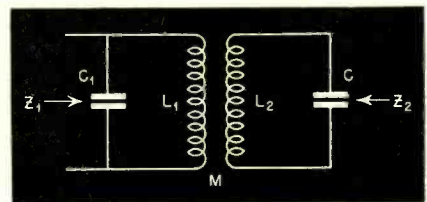

FIG. 3
**Solution:** Let Fig. 3 represent the inductively coupled circuits.